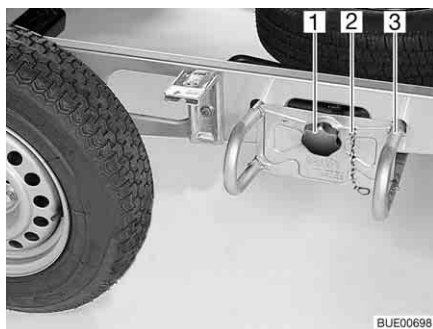

Fig. 234 Spare wheel support
- Unhook the safety chain (Fig. 234,2).
- Loosen and unscrew the star handle (Fig. 234,1).
- Pull out the spare wheel support (Fig. 234,3) about 10 cm and place it on the ground.